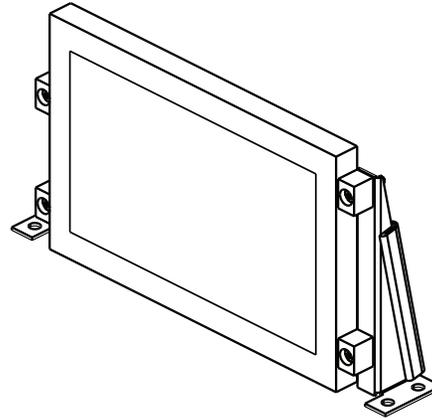

Fig. 7: Touch Screen Display
The Touch Screen (TS) user interface uses a high-definition capacitive screen. See Fig. 7. It includes an extensive graphical library used to represent different